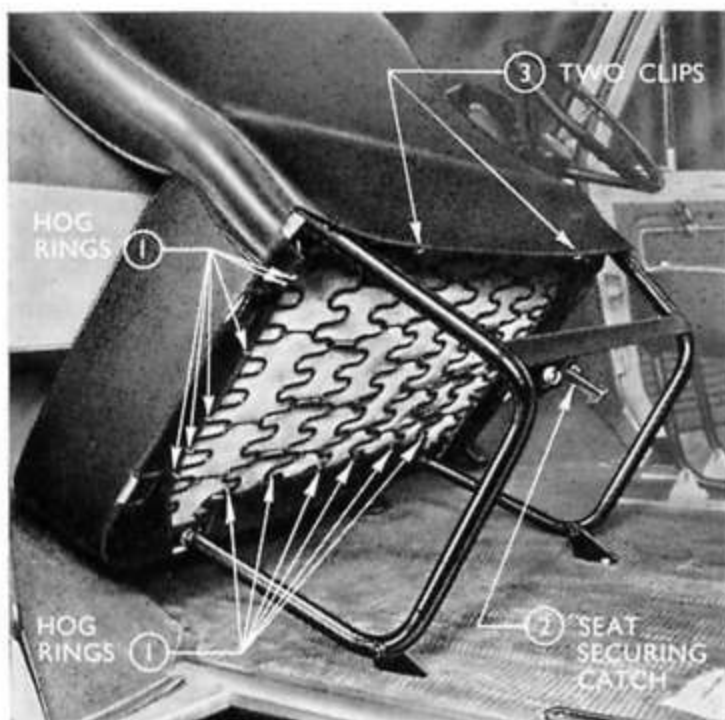

Fig. 19
3. Remove the two clips which secure the back face of the back rest to the seat frame (see Fig. 19).
6. Remove fifteen hog rings from the cushion front and side borders (see Fig. 19).